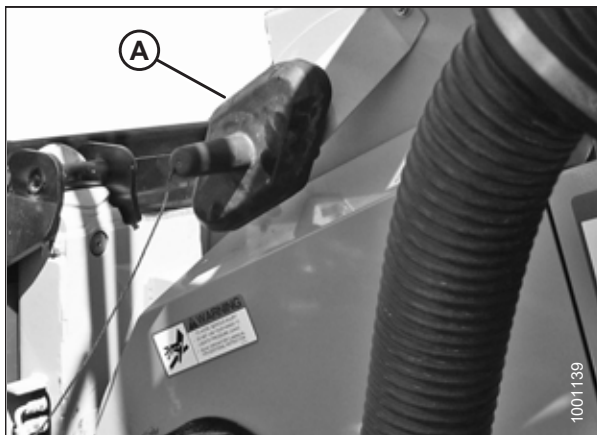

Figure 3.129: Receptacle Cover
13. Place float module receptacle cover (A) onto the combine receptacle as shown in Figure 3.129, page 106.